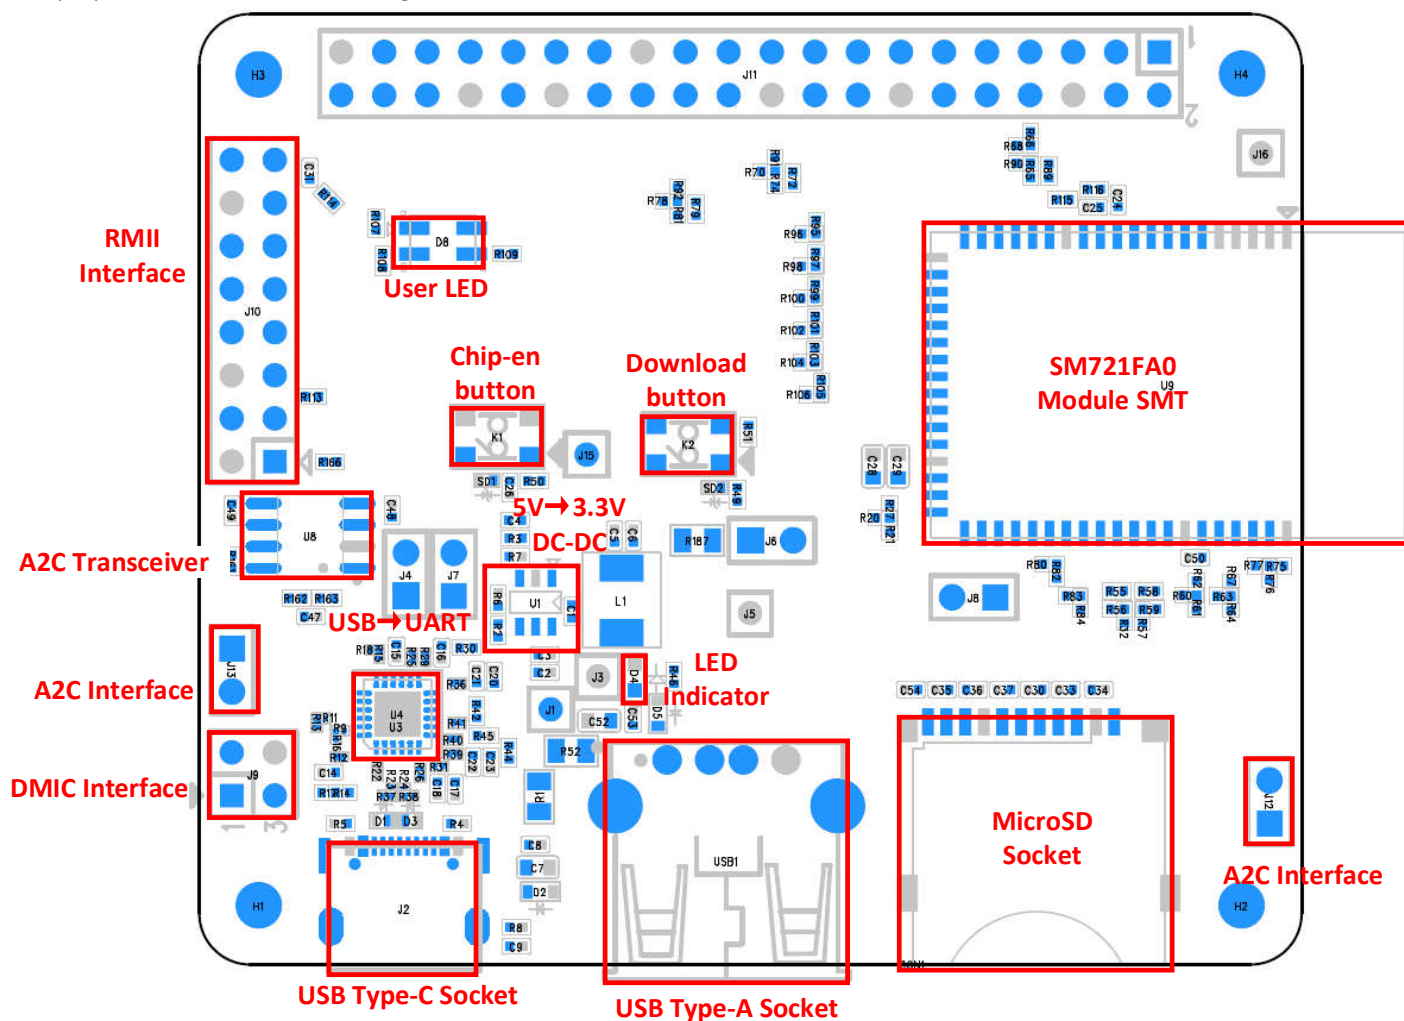
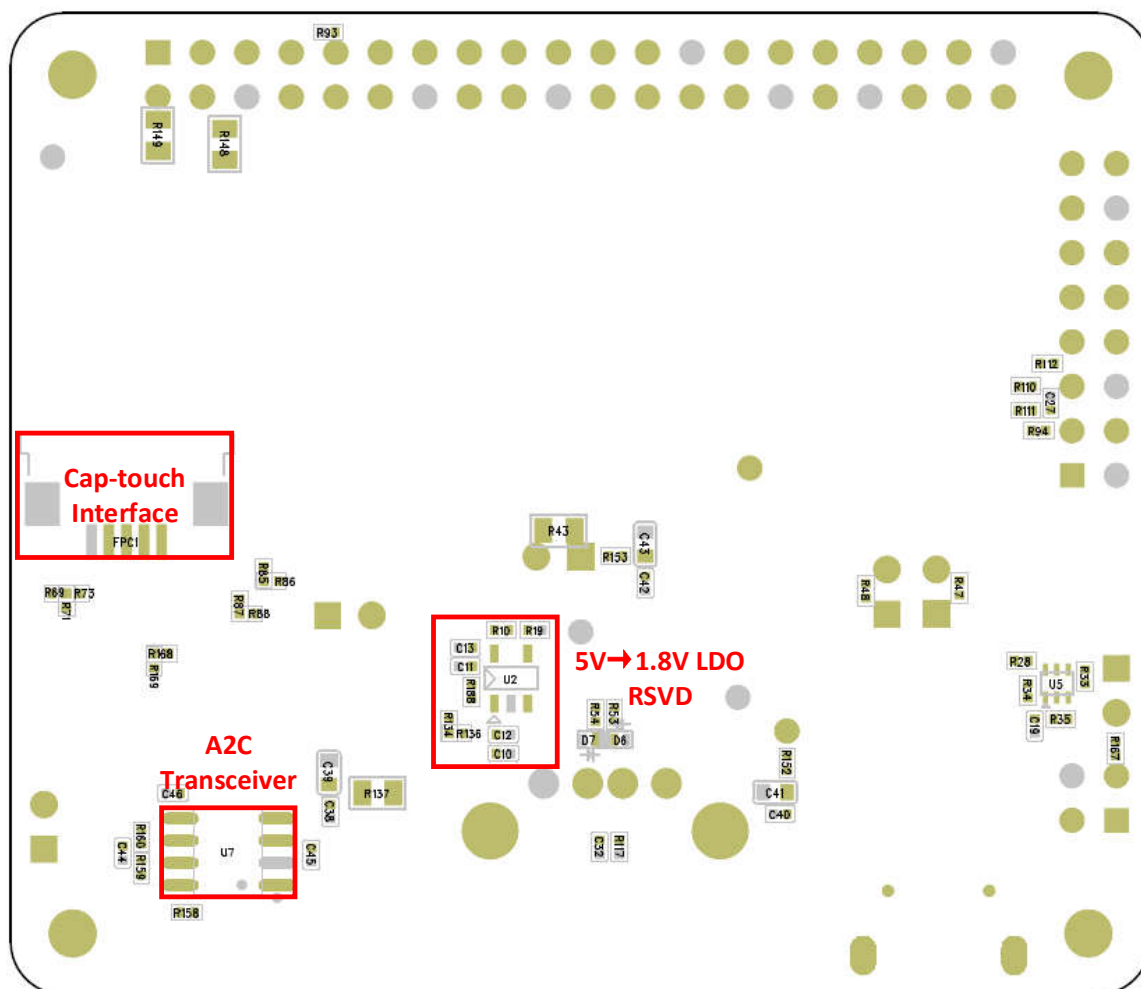

Figure 3-1 EV721FA0 EVB – top layer
Figure 3-2 EV721FA0 EVB – bottom layer
- (1) Confirm whether the function circuit or interface is supported directly on the EVB or not, please refer to Figure 3-1 & Figure 3-2.
- (2) If the function circuit or interface is supported directly on the EVB, like User LED, RMII, USB, SDIO etc. Please refer to chapter 4 Basic Usage for information of the function.
- (3) If the function circuit or interface is not supported directly on the EVB, like PWM, I2C, SPI etc., users need to connect the EVB to external
The top layer of the EVB is illustrated in Figure 3-1.
The bottom layer of the EVB is illustrated in Figure 3-2.
4. Not all pins are connected to the pin headers by default. If the following pins (PA4, PA5) need to be used on the pin headers, please refer to Table 3-2 to determine the hardware changes that need to be made on the EVB board. In addition, please refer to Figure 3-1 and Figure 3-2 for the specific location of the components that need to be adjusted on the board.